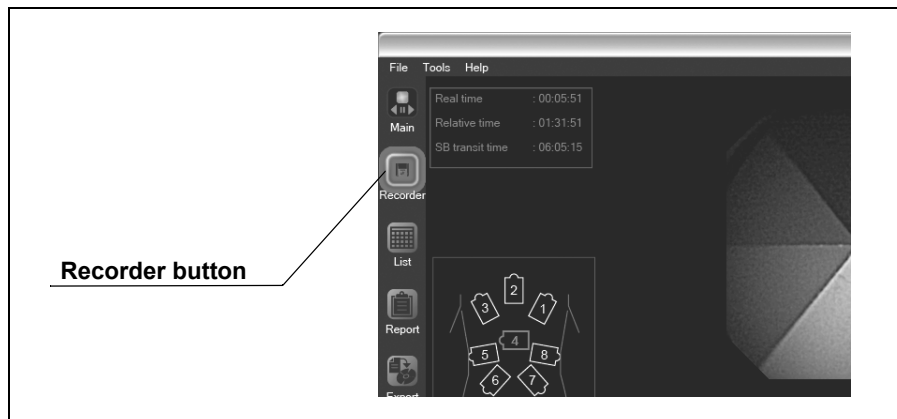

Figure 5.51
5. Click the [Recorder] button on the main screen. The recorder management screen is displayed (see Figure 5.51).